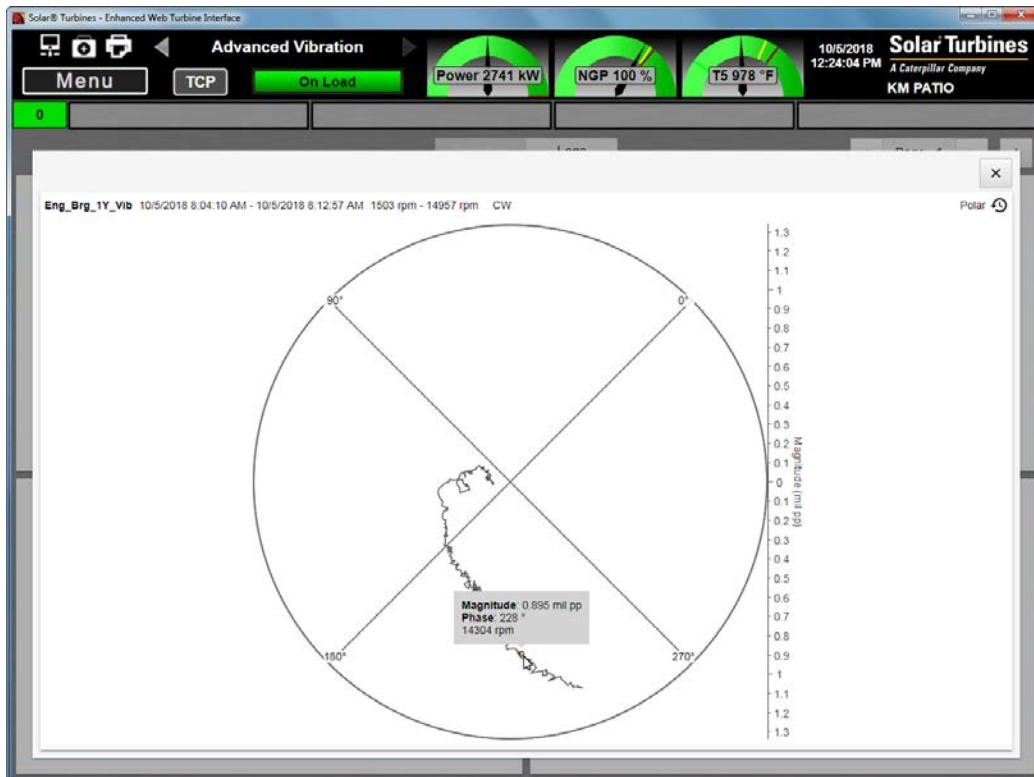

Figure 9. 1x Polar Plot
3. The 1x Polar plot (Figure 9) shows synchronous phase angle and amplitude in polar coordinates.